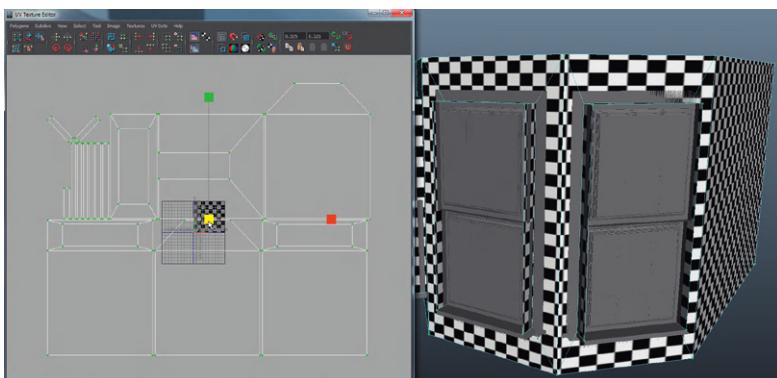

FIG 5.10 Resizing the UVs, so that the texture tiles across the surface thus creating much smaller checkers.
Step 9: Resize the checkers to be much smaller across the surface. Do this in the UV Texture Editor. First Right-click-hold and choose UV. Marquee select around all the UVs (all the shapes in the UV Texture Editor at this point). Hit r on the keyboard to swap to the Scale Tool, and scale uniformly in both directions by clicking and dragging on the yellow square in the middle of the manipulator handle. Scale out quite a bit – and well beyond the bounds of the top right quadrant, so that the checkers become much smaller on the wall in the View Panels (Fig. 5.10).